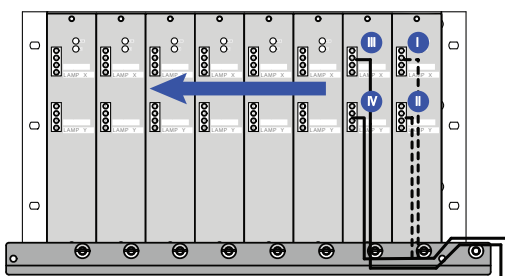

Figure 6 All Other Lamp Driver Racks
3. For cable routing purposes only (Figure 6). Refer to the provided electrical drawings for Lamp Cable to Lamp Driver wiring:
- For Lamp Driver Racks in the middle or top position, route and land cables beginning on the right side of the Lamp Driver Rack. Install the first lamp cable in the upper most position (i.e. I). Install the next Lamp Cable into the (II) position, and so on. Move right to left until complete.